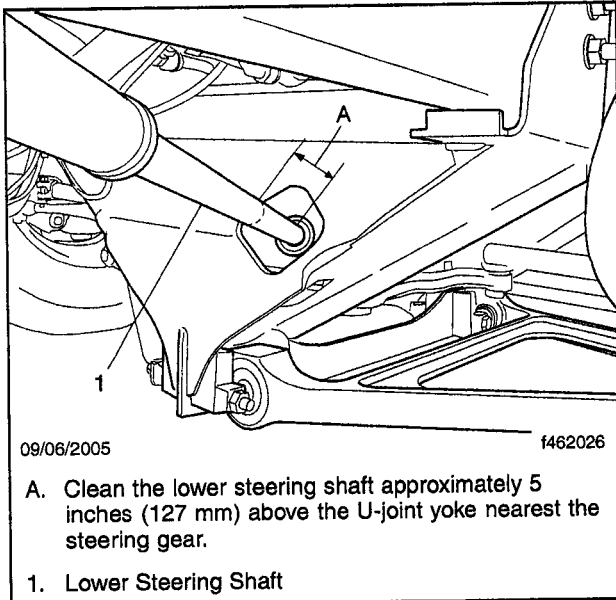

Fig. 4, Cleaning of the Lower Steering Shaft on an FCCC XC Motorhome Chassis
3. Using a cloth to remove all dirt and grease, clean the lower steering shaft approximately 5 inches (127 mm) above the U-joint yoke nearest the steering gear. See **Fig. 3** and **Fig. 4**.